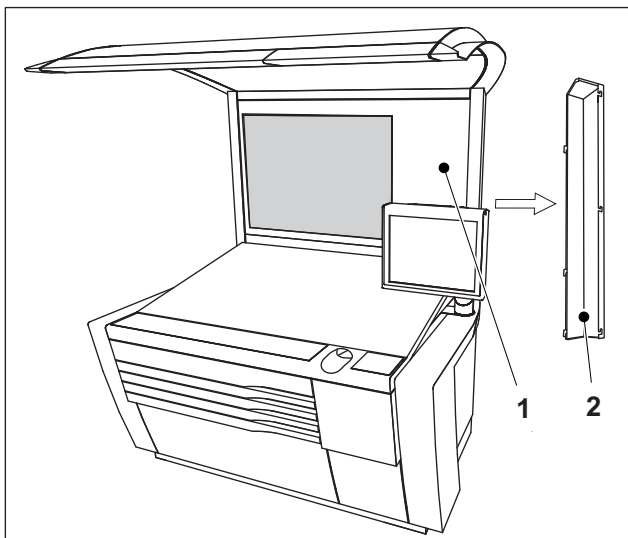

Fig. 26 Place of installation of the Wallscreen
3. Open the right facing of the Wallscreen (Fig. 26/2). Push the facing upward by a few centimeters until it disengages. Pull off the facing in the direction of the arrow (Fig. 26).
11. Close the facing (Fig. 26/2).